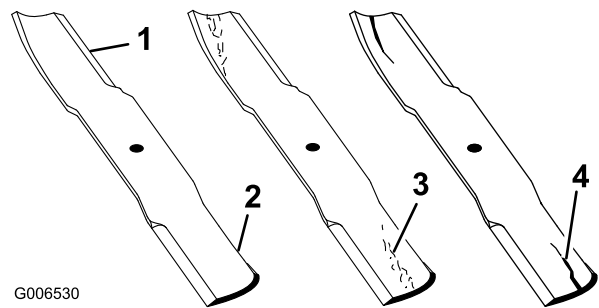

Figure 61
1. Inspect the cutting edges (Figure 61). If the edges are not sharp or have nicks, remove and sharpen the blades. Refer to Sharpening the Blades.
2. Inspect the blades, especially the curved area (Figure 61). If you notice any damage, wear, or a slot forming in this area (Figure 61), immediately install a new blade.